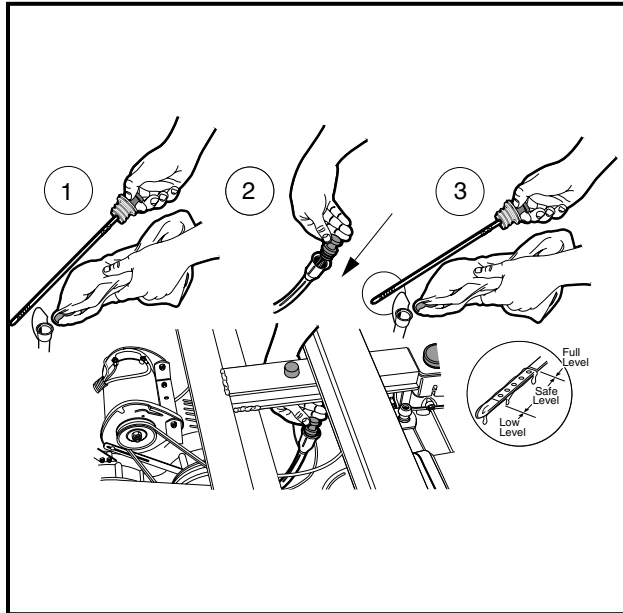

Figure 13-11 Check Engine Oil Level
9. Check engine oil level (Figure 13-11, Page 13-9).